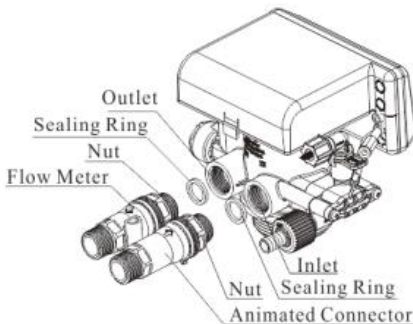

Figure 6
② Install flow meter
1. Put the sealing ring into the internal thread of the inlet and outlet as Figure 6 shows.